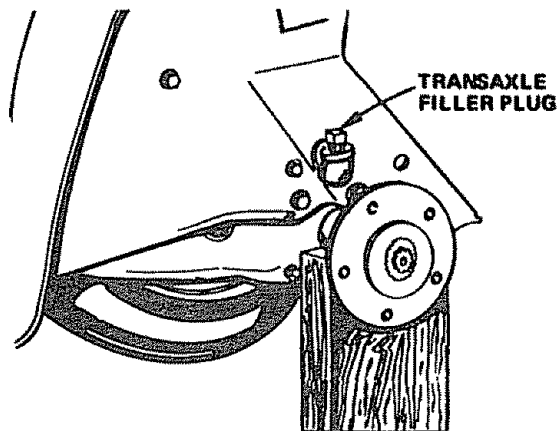

FIGURE 47
- Remove Filler Plug (Fig. 47) from Transaxle. Oil Level should be even with Filler Plug threads. Add S.A.E. 30 Motor Oil if necessary.